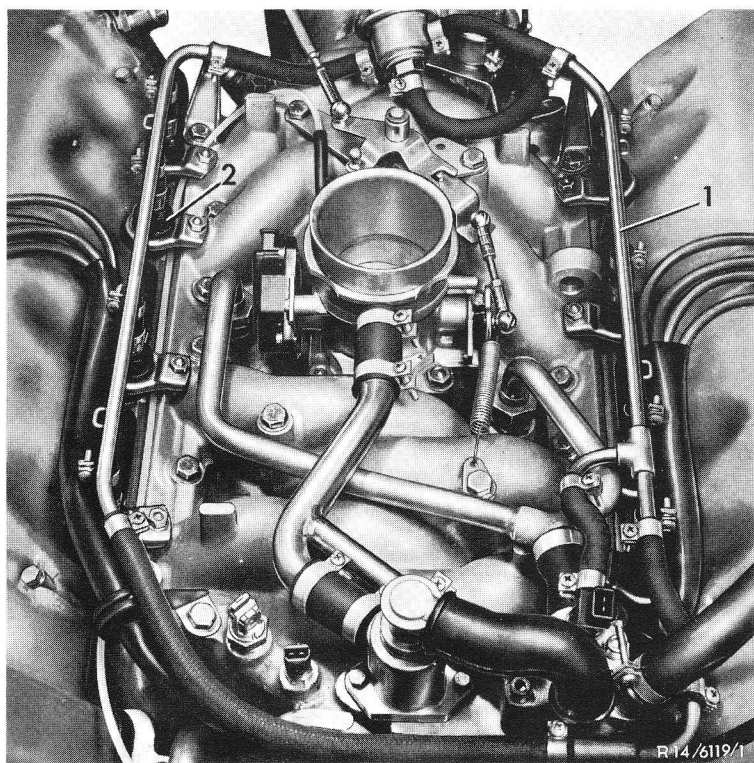

Fig. 2
- 5 Loosen ring line (1) with injection valves (2) and remove (Fig. 2).